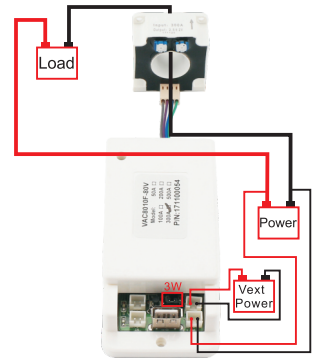

Figure 3-2
2). External power supply wiring diagram (Figure 3-2)